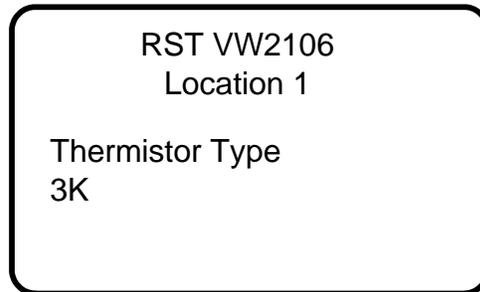

FIGURE 4-5 THERMISTOR TYPE
8. Use the up/down arrows to select the type of thermistor (Figure 4-5) and press **Enter**. The default is 3K, which is the standard thermistor in all RST Vibrating Wire sensors.